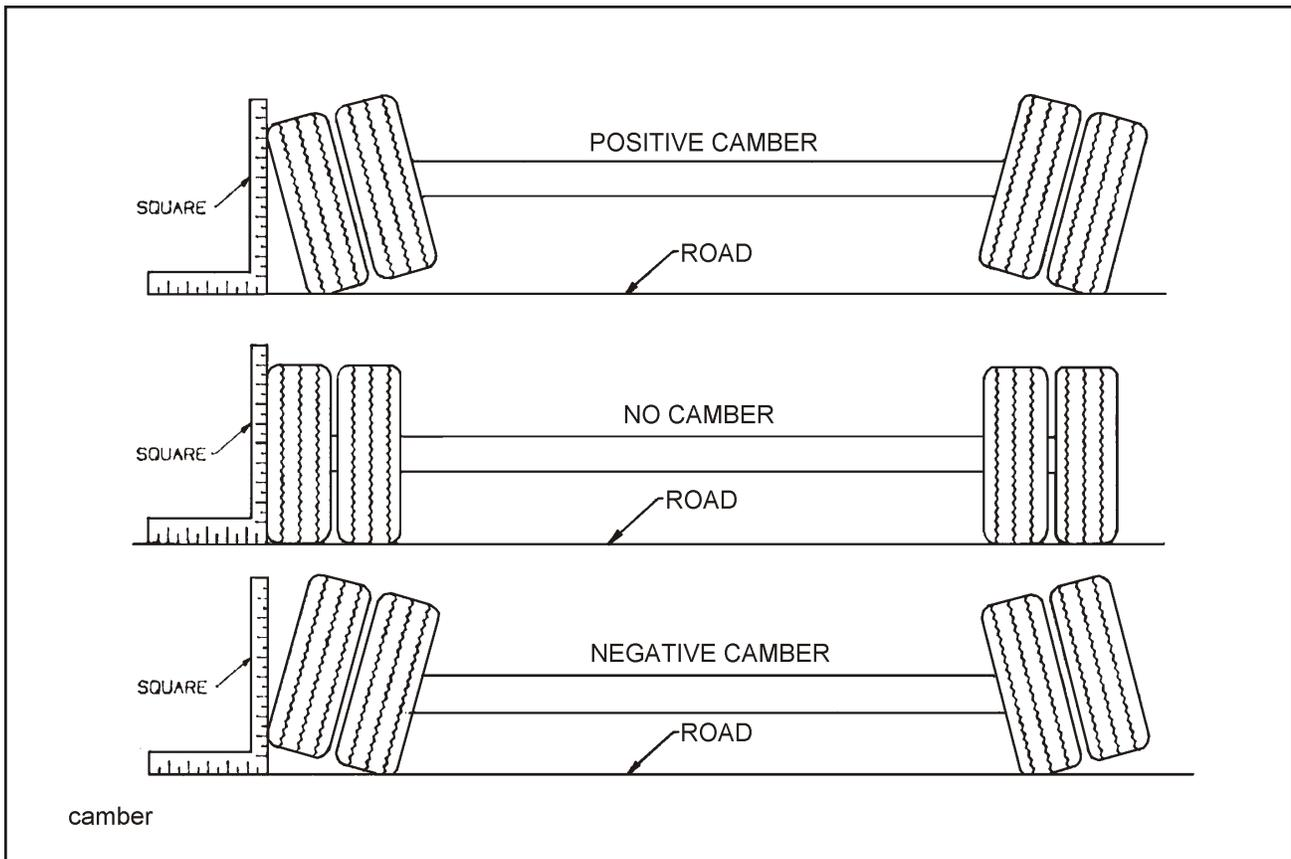

FIGURE 4-7 EXAMPLES OF CAMBER
- d. Follow the same procedures as in **Section 4-7.1 b. and c.**, except place the axle gauge above and below the axle. If gauge point gap is found, the axle has positive or negative camber. The trailer axle has no camber from the factory. If it is found to have positive or negative camber, axle replacement is necessary (**See Figure 4-7** for examples of camber).